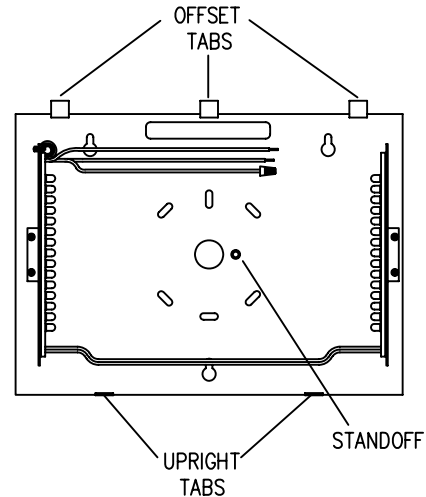
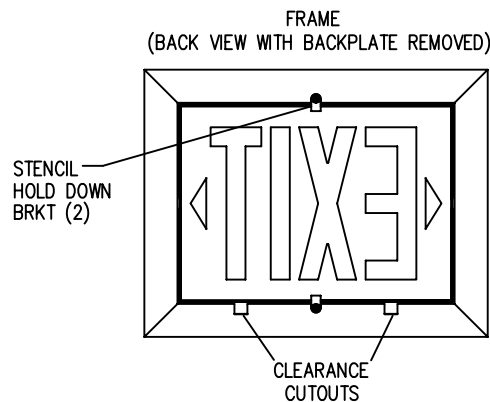

Figure 1
Figure 2
1. Remove (2) screws from frame and separate from backplate.
2. Stencil may now be removed from frame assembly to knockout required arrow(s). (See figure 2)
6. Place frame assembly over backplate and align (2) clearance cutouts in frame (see figure 2) with (2) upright tabs of the backplate (see figure 1). Slide frame upwards until the frame clears the (3) offset tabs at the top of the backplate. Then slide frame down locking in the frame to the (3) offset tabs. Frame should now sit flush. Attach (2) screws in bottom side of frame assembly to upright tabs of backplate.